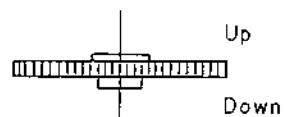
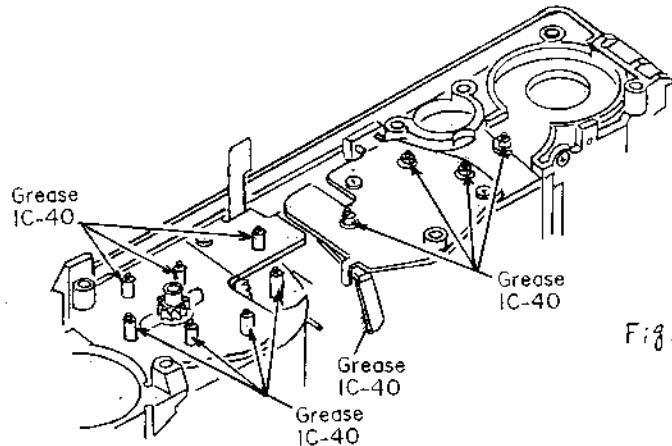

Fig 28
Fig. 29
- a) Do not mistake the top and bottom sides of the MM Gear (7) (3AQ62101). (See Fig. 28)
- b) Do not mistake the MM Gear (8) (3AQ62201) (black) and MM Gear (9) (3AQ62303) (white) for each other. Confusion may result in heavy rewinding
- c) Apply Grease I-40 to the bearings of the Gears. (See Fig. 29)